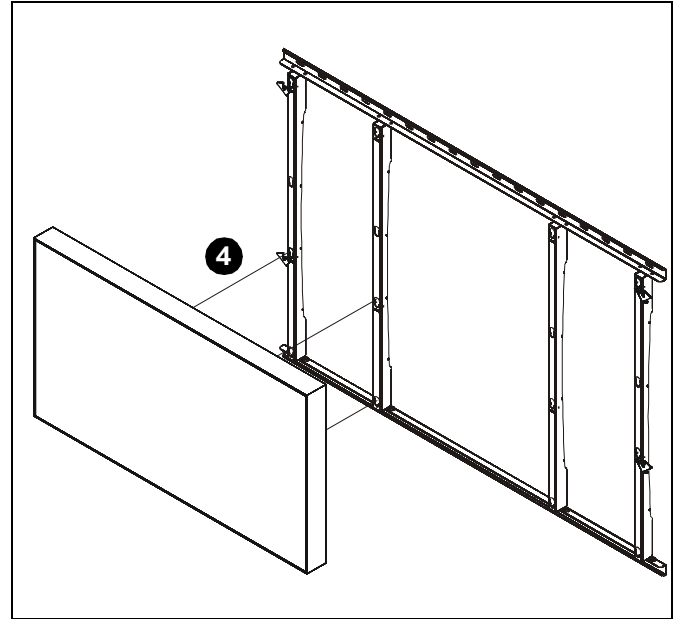

Figure 9
4. Lift display onto mount by inserting mounting buttons into teardrop openings on vertical mounting brackets. (See Figure 9)